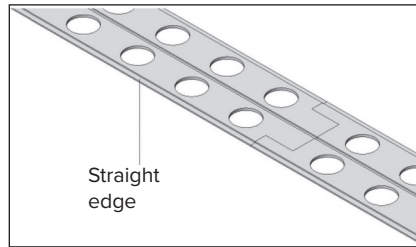

Fig.5: Zn coated track extension
4.5.1. Place the rail on the part to be cut. If there is a need for a length more than 1,8m then connect the second rail with the first as shown on Figure 5.